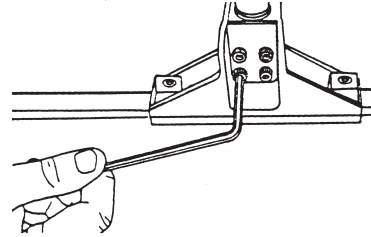

Figure 72
- Once aligned, tighten the Socket Screws with a 5/32" Allen Wrench, as shown in Figure 72. Repeat Step 12c to double check alignment. (It is very important to recheck the alignment!)